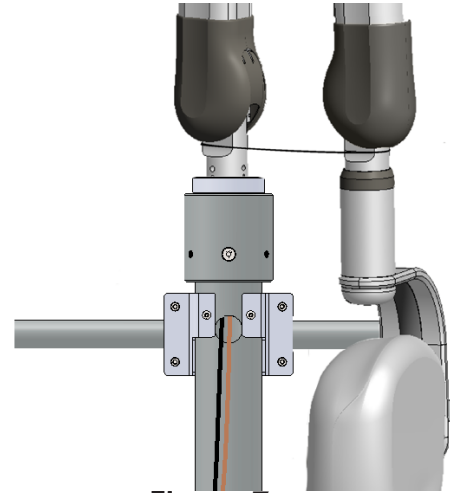

Figure 7
- Fix the scissor-arm attached with tube head on the base stand without damaging the cables as shown in Figure 7. Remove the locking system of the scissor-arm and open the scissor-arm.